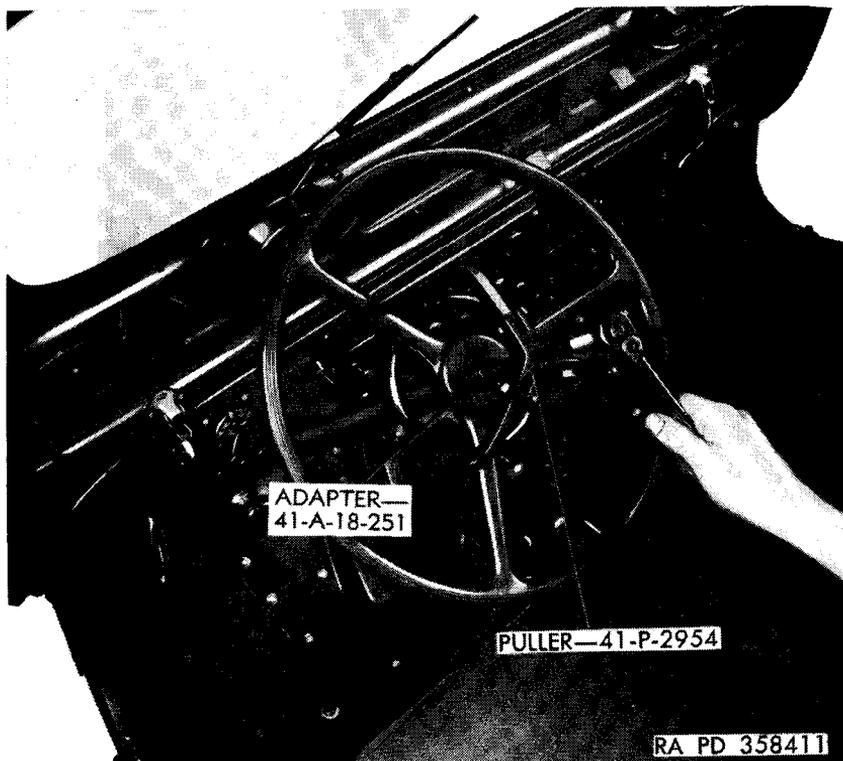

Figure 13. Removing steering wheel.
c. Remove Clutch and Brake Pedal Pads and Steering Wheel. Remove cap screw from clamp at bottom of clutch and brake pedals. Remove clutch and brake pedal pads, shank pads, shank pad springs, and washers. Remove horn button cap, horn switch push rod, horn retainer washer; remove the steering wheel nut securing the steering wheel. On some of the earlier models, not equipped with the new cap, remove the nut securing steering wheel; remove horn button, horn switch push rod, and spring. Using puller 41-P-2954 and adapter 41-A-18-251, remove steering wheel (fig. 13).